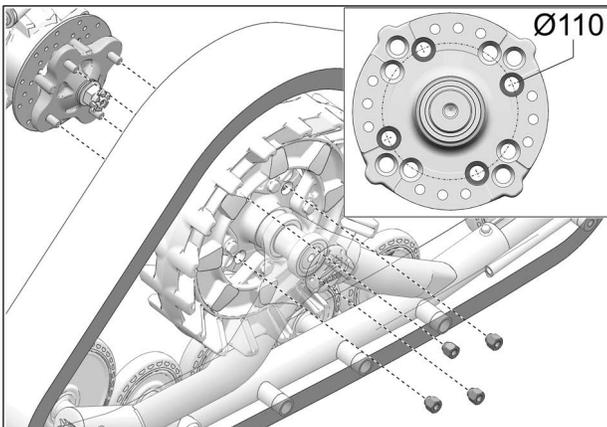

Fig. 21
8. Secure undercarriage to front hub using the vehicle's own lug nuts. Use bolt circle $\text{Ø}110 \text{ mm}$. See Fig. 21